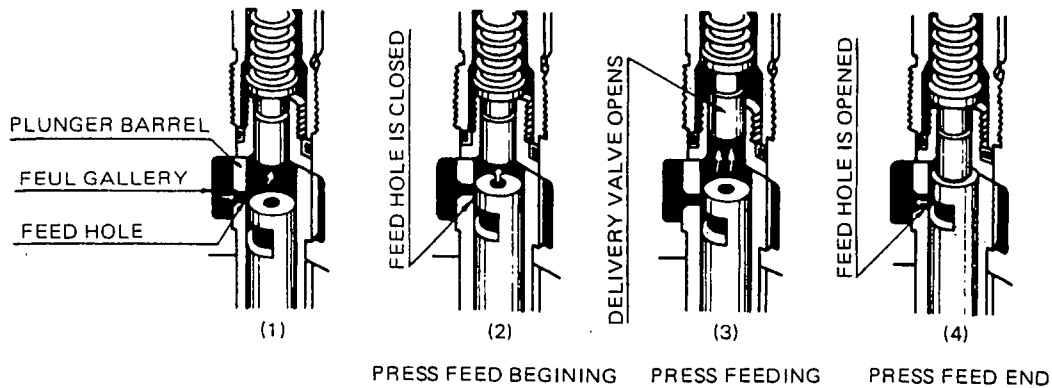

Fig. 4-4 Plunger operation
1. When the plunger is at bottom dead center, fuel flows from the fuel gallery through the feed hole, and into the plunger barrel, as shown in **Fig. 4-4 (1)**.
2. At the moment when the plunger rises through rotation of the camshaft and the upper portion of the plunger is aligned with the top of the feed hole, fuel-pressure-feeding begins, **Fig. 4-4 (2)**.
3. In accordance with plunger stroke, fuel then opens the delivery valve and flows to the nozzle. (**Fig. 4-4 (3)**).
4. The plunger rises further and at the moment when the lower portion of the control groove is meet with the top of the feed hole, the fuel is pressure-returned to the fuel chamber through the center hole of the plunger, and the fuel pressure drops, fuel feed ends, (**Fig. 4-4 (4)**).